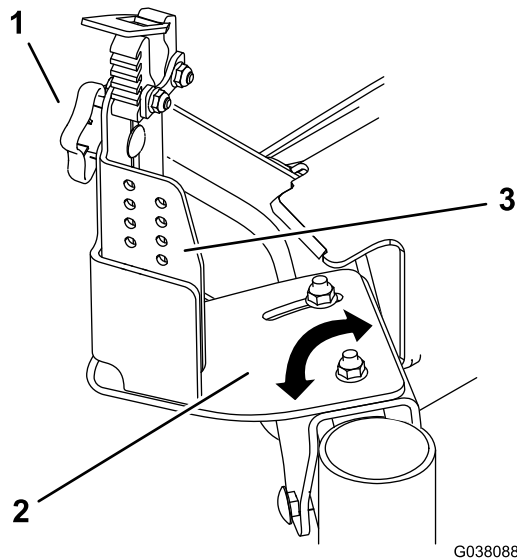

Figure 7
2. Loosen the bolts securing the mount plate to the channel bracket in the front mount assembly (Figure 7).
4. Loosen the knob and raise or lower the trimmer plate as necessary (Figure 7). Tighten the knob.